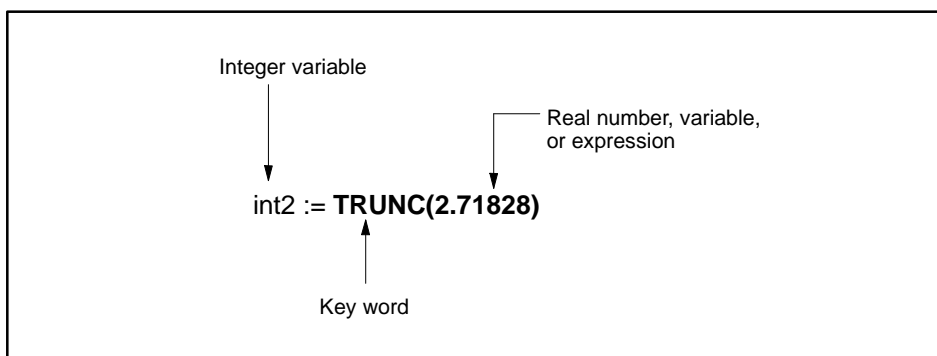

Figure 11-52 TRUNC Function
- The returned value is an integer. For example, in Figure 11-52, the value of the variable, `int2`, is 2.